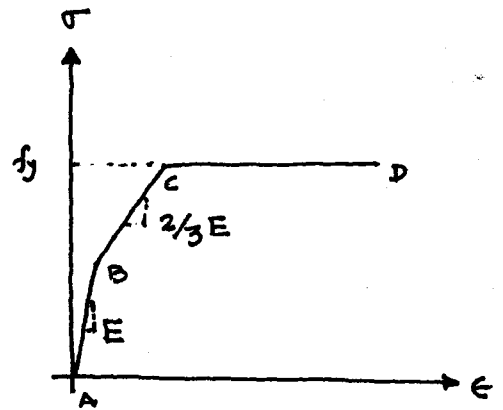

Fig. Q.6
6. Draw the column strength curve for the stress-strain diagram shown in Fig. Q. 6. The cross-section of the column is rectangular of dimension 50 mm x 30 mm. Also, calculate the critical load based on the derived column-strength curve when unsupported length of the column is 8 m. One end of the column is fixed and other end hinged. Given,  $E=2.1 \times 10^5 \text{ MPa}$ ,  $f_y = 250 \text{ MPa}$ ,  $E_r = (4E_t E) / (\sqrt{E_t} + \sqrt{E})^2$ .